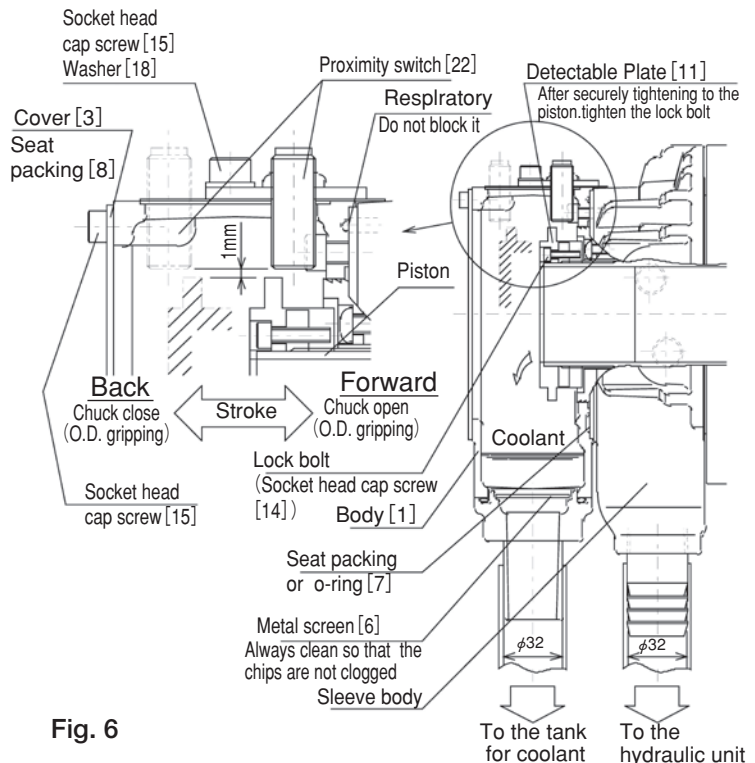
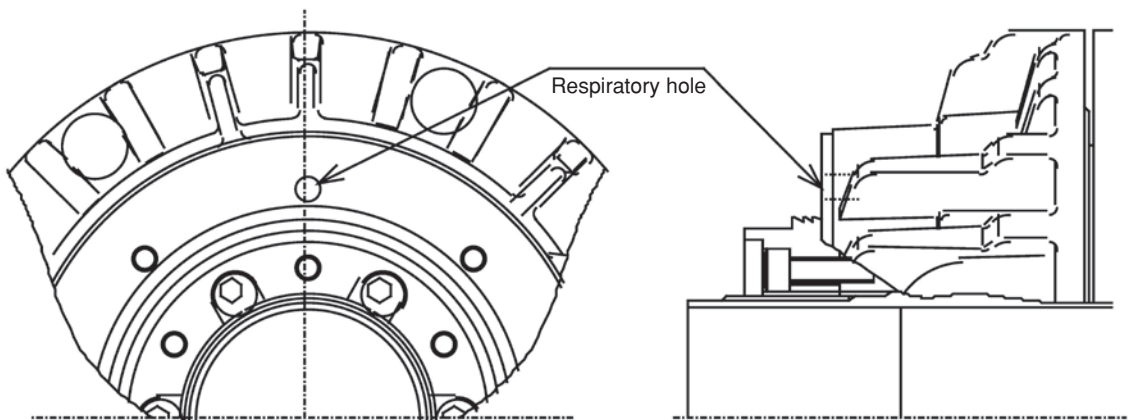

Fig. 6
Fig. 7
(Inside diameter  $\phi 32$ ) (Fig. 6)
Read following instruction when you adjust the proximity switch. (Fig.6)
- In case you use a coolant collector manufactured by the company other than Kitagawa Iron Works, do not block the respiratory hole. (Fig. 6 , Fig. 7)
Always clean the punching metal so that the coolant does not stagnate inside the coolant collector. Be sure the chips are not clogged. (Fig. 6)